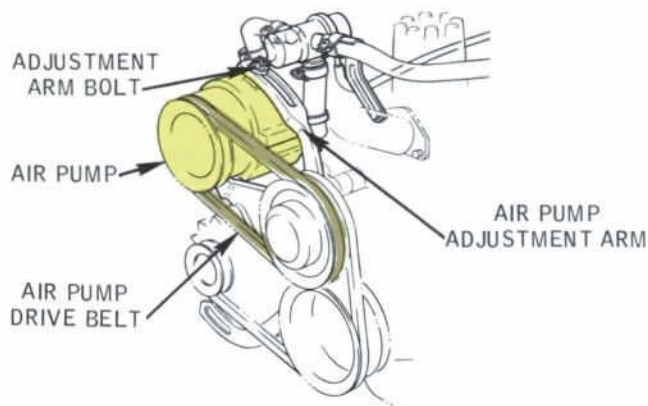

Fig. 13 — Typical Drive Belt Arrangement
The air pump drive belt should be properly adjusted at all times (Fig. 13). A loose drive belt causes improper air pump operation. A belt that is too tight places a severe strain on the air pump bearings.
2. If adjustment is necessary, loosen the air pump mounting and adjusting arm bolts (Fig. 13). Move the air pump toward or away from the engine until the correct tension is obtained. *Use a suitable bar and pry against the pump rear cover to hold belt tension while tightening the mounting bolts. Do not pry against the pump housing.* Remove the gauge. Tighten the air pump adjusting arm and mounting bolts. Install the tension gauge and check the belt tension.
1. Loosen the air pump adjusting arm bolt (Fig. 13). Loosen the air pump-to-mounting bracket bolt, and push the air pump towards the cylinder block. Remove the drive belt.